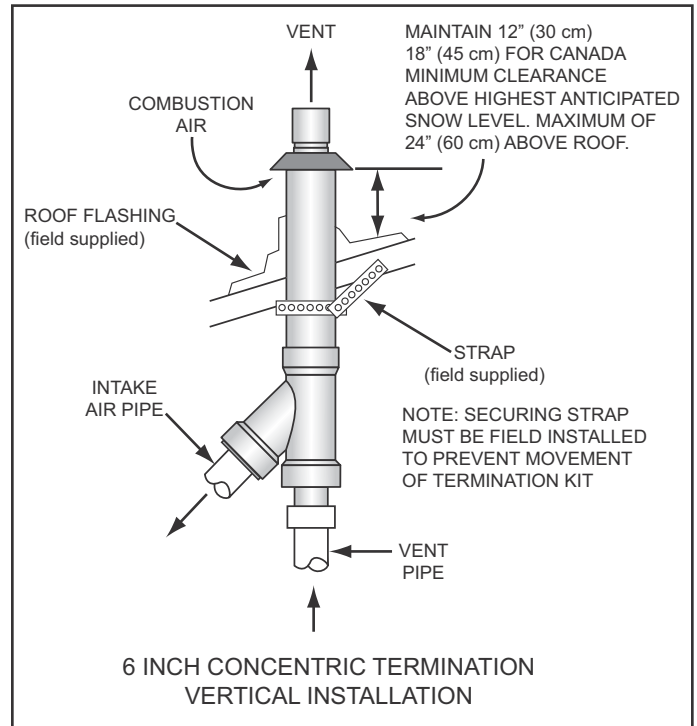

**Figure 29**
See Figure 26 on page 28 and Figure 29 on page 29 for the maximum and minimum lengths allowed for the 4 inch and 6 inch concentric terminations.
Assemble and install the 6 inch concentric termination. Refer to Figure 29, Figure 30 and Figure 31 for these instructions:
3. If the intake air piping being installed is 4 inch pipe, cement the 6" x 4" standard reducer bushing into the angle (intake air) end of the Y fitting as shown in Figure 29.